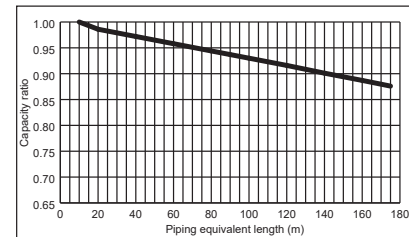

Figure 6 Correction of refrigerant piping length
- Piping Length Correction (30 m) 0.98 (Refer to Figure 6)